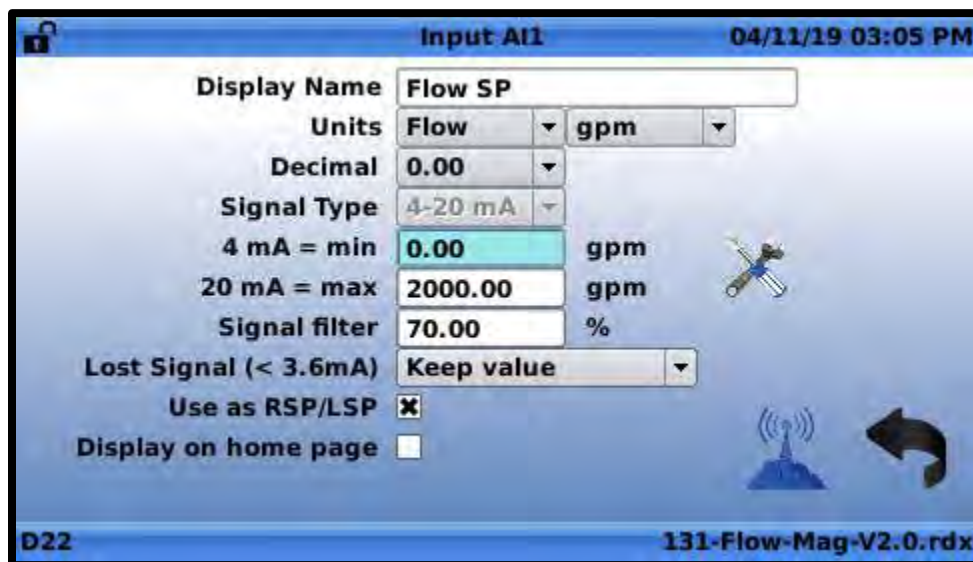

Figure 4.14
1. Use the “Up” and “Down” buttons to highlight a numeric entry field on a screen. When the field is highlighted, the background will turn from white to light blue as shown in **FIGURE 4.14**: